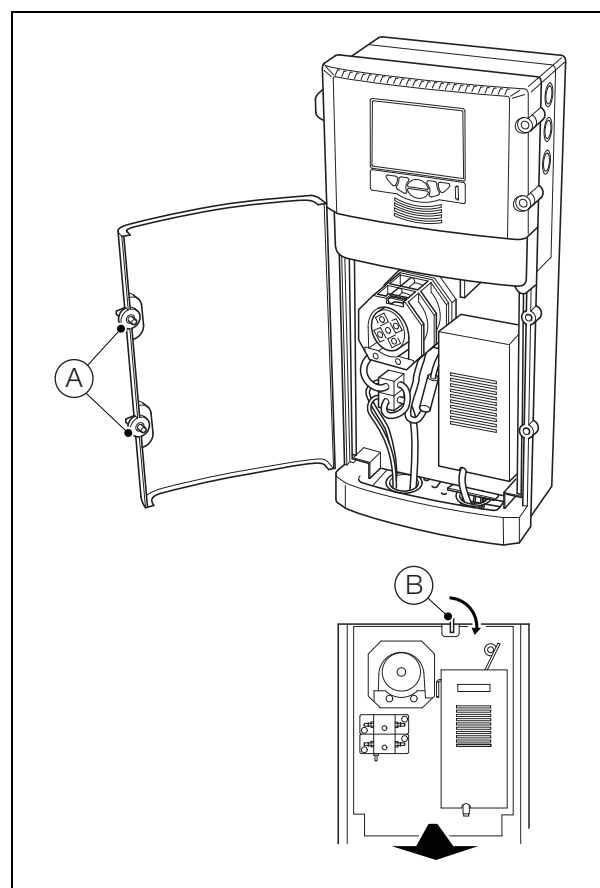

Fig. 13.1 Accessing the Pump
2. Referring to Fig. 13.1:
- a. Release thumbscrews (A) and open the liquid-handling section door.
- b. Unlock catch (B), pull the liquid-handling section panel forward and lock into the vertical position using catch (B).
10. Referring to Fig. 13.1:
- Release catch (B), push the liquid-handling section panel rearwards into the enclosure and lock it into position with catch (B).
- Close the liquid-handling section door and secure with thumbscrews (A).